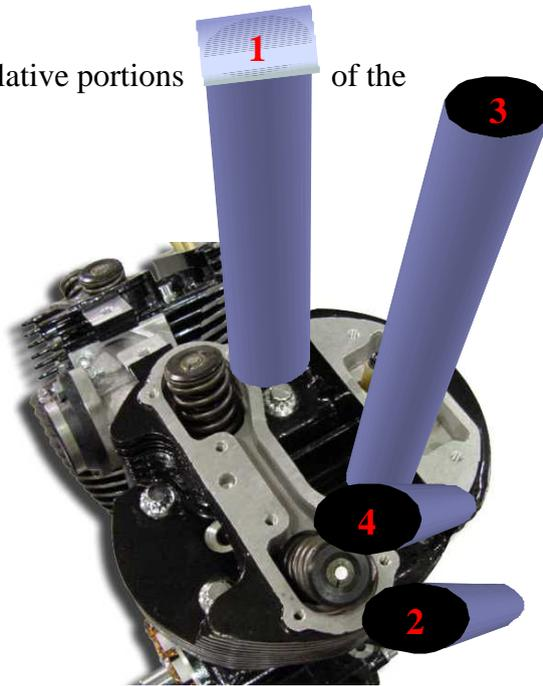

Figure 2
20. Place four (4) hollow dowel pins (PN01-061), two (2) in the top of each cylinder.
21. Install one (1) cylinder gasket (PN01-268 Front and PN01-269 Rear) on each of the two cylinders, making certain that the “fire ring” is facing up.
24. Install two (2) each of the long (PN01-170) and two each of the short (PN01-171) head bolts on each of the two cylinder heads. Short bolts go in the low side of the head. Long in the high side.
25. Torque to 5 ft lbs., then 14 ft lbs and 90° in the order shown in Figure 2 below.